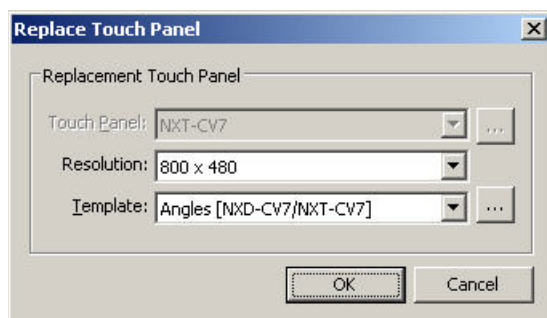

FIG. 129 Replace Touch Panel dialog
4. At this point, the *Replace Touch Panel* dialog is invoked (FIG. 129).